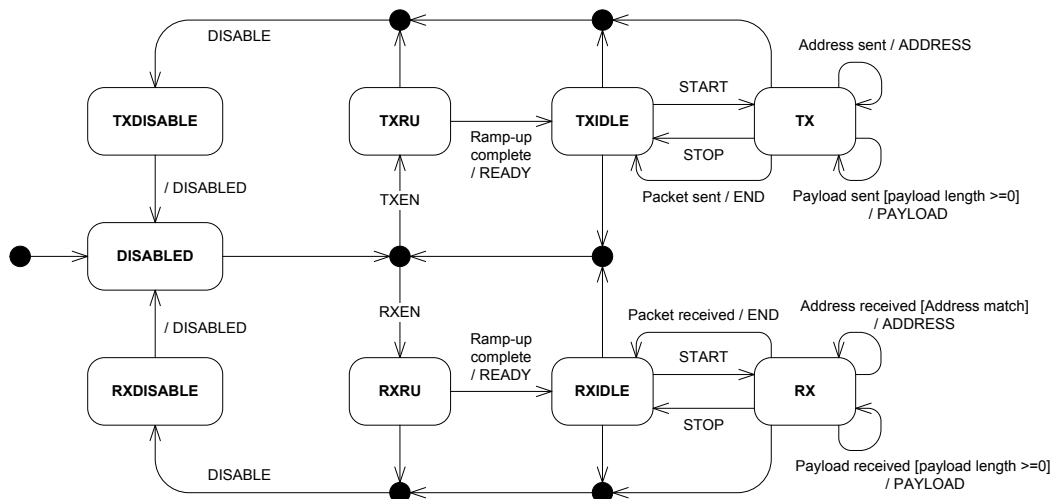
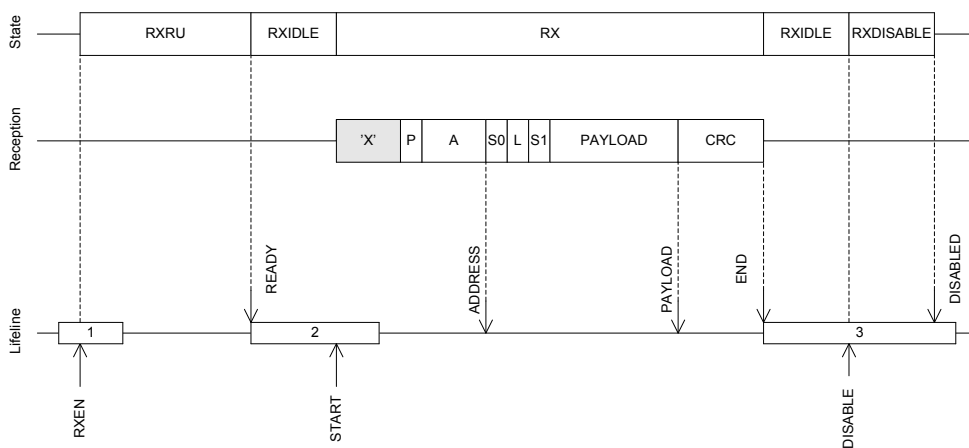
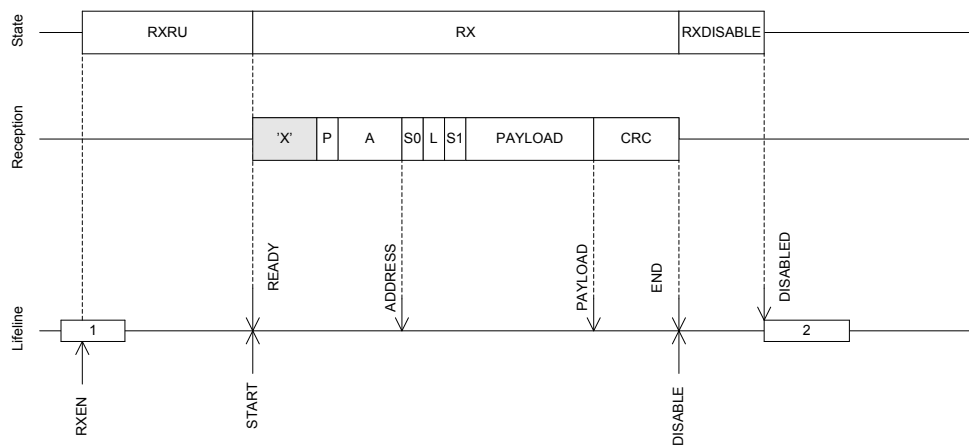

Figure 34: Radio states
Figure 38: Receive sequence
Figure 39: Receive sequence using shortcuts to avoid delays
The RADIO can enter the states described the table below. An overview state diagram for the RADIO is illustrated in Figure 34: Radio states on page 209. This figure shows how the tasks and events relate to the RADIO's operation. The RADIO does not prevent a task from being triggered from the wrong state. If a task is triggered from the wrong state, for example if the RXEN task is triggered from the RXDISABLE state, this may lead to incorrect behaviour. As illustrated in Figure 34: Radio states on page 209, the PAYLOAD event is always generated even if the payload is zero.
See TXRU in Figure 34: Radio states on page 209 and Figure 35: Transmit sequence on page 210.
A TXRU ramp-up sequence is initiated when the TXEN task is triggered. After the radio has successfully ramped up it will generate the READY event indicating that a packet transmission can be initiate. A packet transmission is initiated by triggering the START task. As illustrated in Figure 34: Radio states on page 209 the START task can first be triggered after the RADIO has entered into the TXIDLE state.
See RXRU in Figure 34: Radio states on page 209 and Figure 38: Receive sequence on page 211.
An RXRU ramp-up sequence is initiated when the RXEN task is triggered. After the radio has successfully ramped up it will generate the READY event indicating that a packet reception can be initiated. A packet reception is initiated by triggering the START task. As illustrated in Figure 34: Radio states on page 209 the START task can, first be triggered after the RADIO has entered into the RXIDLE state.
Figure 38: Receive sequence on page 211 illustrates a single packet reception where the CPU manually triggers the different tasks needed to control the flow of the RADIO, i.e. no shortcuts are used. If shortcuts are not used, a certain amount of delay, caused by CPU execution, is expected between READY and START, and between END and DISABLE. As illustrated Figure 38: Receive sequence on page 211 the RADIO will be listening and possibly receiving undefined data, illustrated with an 'X', from START and until a packet with valid preamble (P) is received.
A slightly modified version of the receive sequence from Figure 38: Receive sequence on page 211 is illustrated in Figure 39: Receive sequence using shortcuts to avoid delays on page 212 where the the RADIO is configured to use shortcuts between READY and START, and between END and DISABLE, which means that no delay is introduced.